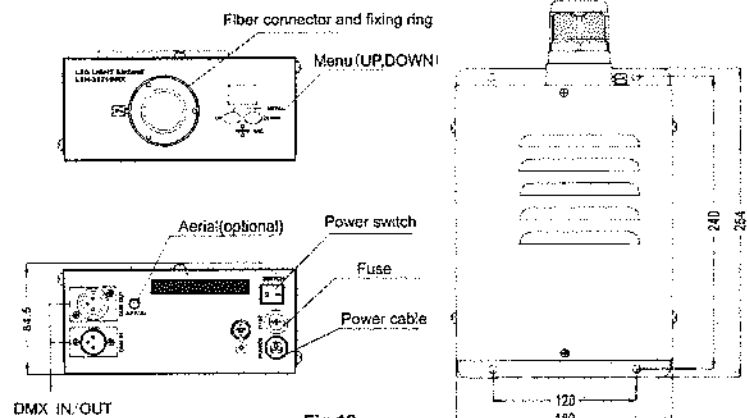

Fig.13
C. Installation dimension of light engine(see Fig.13):